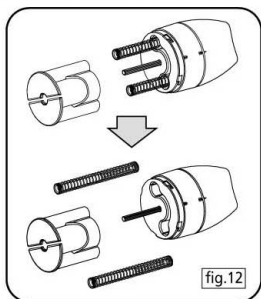

fig.12
3. Cheese Pusher and Spring Assembly can be removed from the Main Body for cleaning. First pull the Cheese Pusher out from the Main Body, then pull the Spring Assembly out from the Main Body. (Fig. 12)